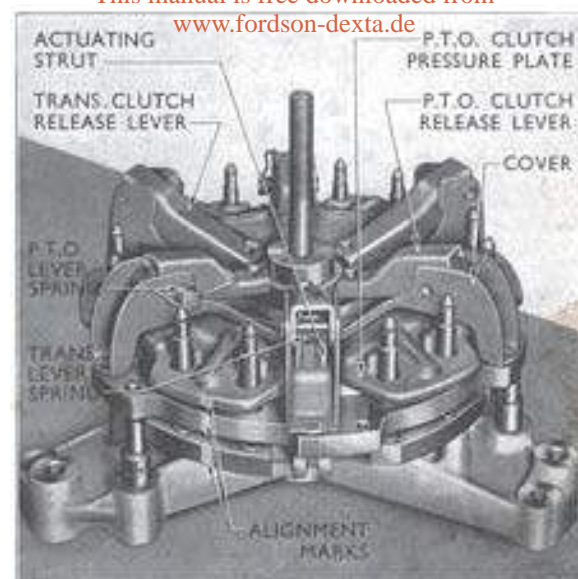

Fig. 10
3. Locate a parallel pivot pin through the hole at the extreme outer end of each short P.T.O. clutch release lever. Slide the end of each lever into position on the clutch cover so that the pin in the lever engages with the slot machined in the P.T.O. pressure plate driving lug which protrudes through the cover. Position a hook ended torsion spring on the plain diameter under the head of each of the three long pivot pins with the shorter arm of the spring adjacent to the head of the pin. Align each P.T.O. release lever in the clutch cover and fit the pivot pins through the cover and levers locating the appropriate ends of each torsion spring in the hole provided in the release lever and over the vertical edge of the cover (see Fig. 10). Secure the three pivot pins with split pins.
6. Place the clutch cover and P.T.O. pressure plate assembly over the P.T.O. disc (see Fig. 10) ensuring the mark made on the P.T.O. pressure plate during dismantling is aligned with the corresponding marks on the centre drive plate and transmission clutch pressure plate (see previous Note). The three release lever actuating struts pass through clearance holes in the centre drive plate and engage in slots in the transmission pressure plate.